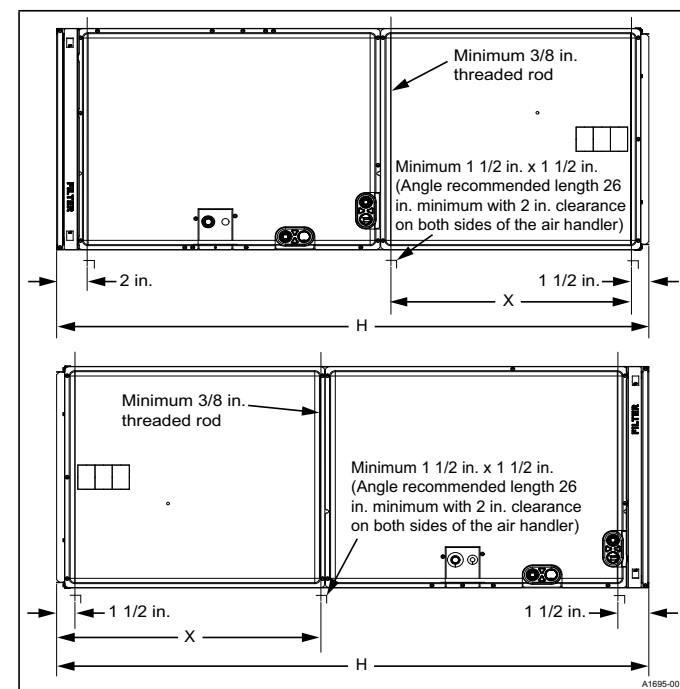

Figure 5: Suspension support locations
2. Insert the horizontal baffle plate into the end of the coil. Insert one end of the horizontal baffle plate into the top side of the primary drain pan as shown in **Figure 5** in the *Installation Manual*.
These air handlers may be suspended in horizontal applications. Use angle steel support brackets with minimum 3/8 in. threaded rods, supporting the unit from the bottom. Attach the threaded rods at the locations shown in **Figure 5**, leaving enough clearance between the door and the rod so that doors can be removed for service.